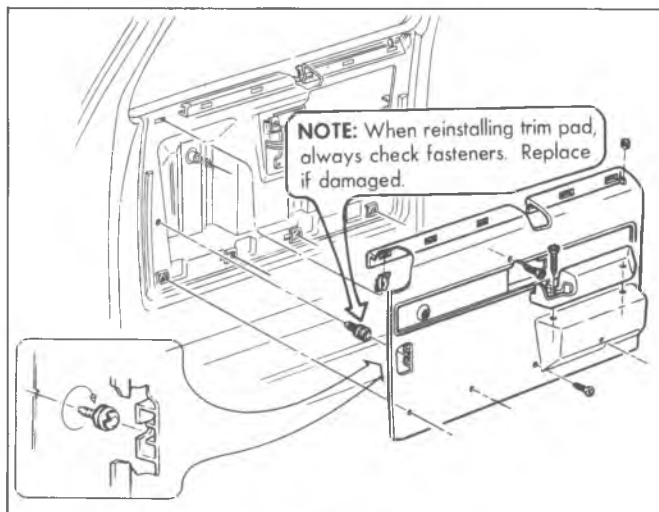

Fig. 26—Door Trim Pad
3. Remove arm rest screws and trim panel. See figure 26.